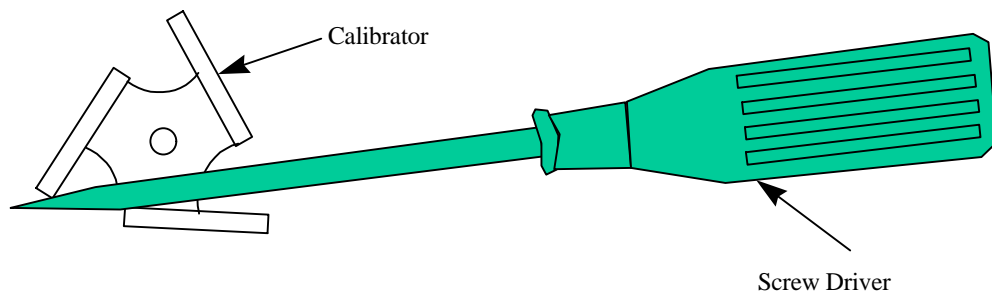

Figure 4-b
7. If the weight indication is over the applied load turn the calibrators within the spring so the calibrators move toward the top of the scale. Use a screw driver as shown in Figure 4-b. If the weight indication is low, turn the calibrators the opposite way.